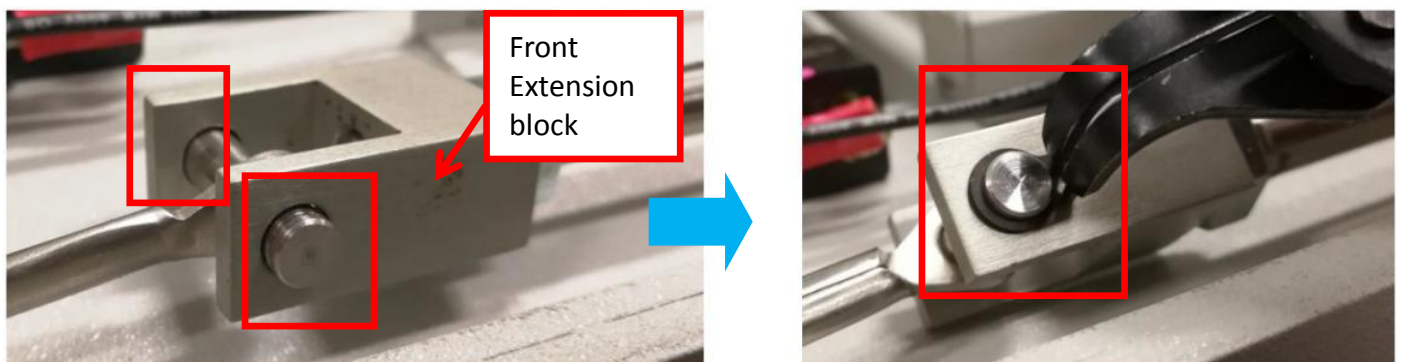

Figure 21
25. By using C-Clip Plier ,slot 2 x C-Clip at both side of dowel pin as Figure 21.